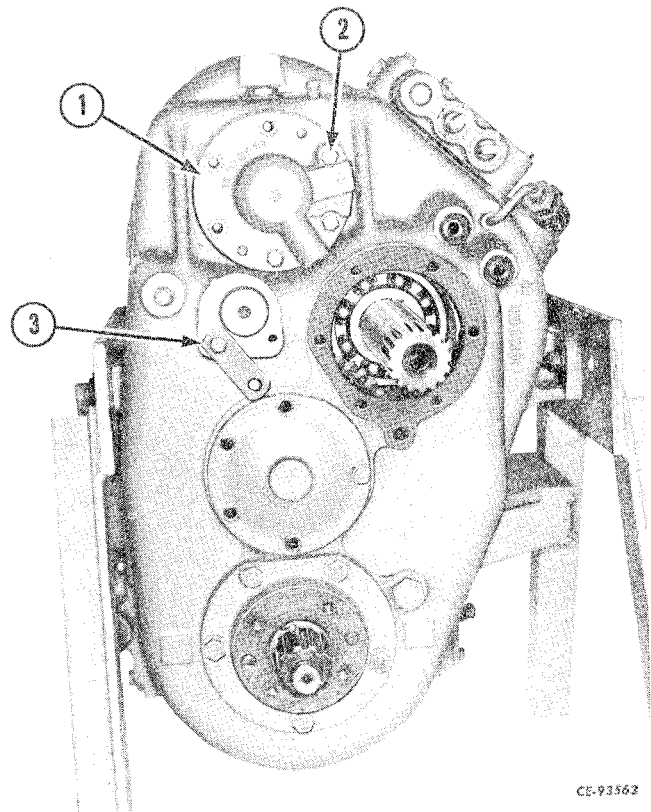

Figure 4-23
Remove the cap screws that hold reverse idler shaft lock (3, Fig. 4-23) in place. Remove the lock. Remove cap screws (2) that secure forward and reverse oil supply cover (1). Use cap screws in jack screw holes to remove cover.